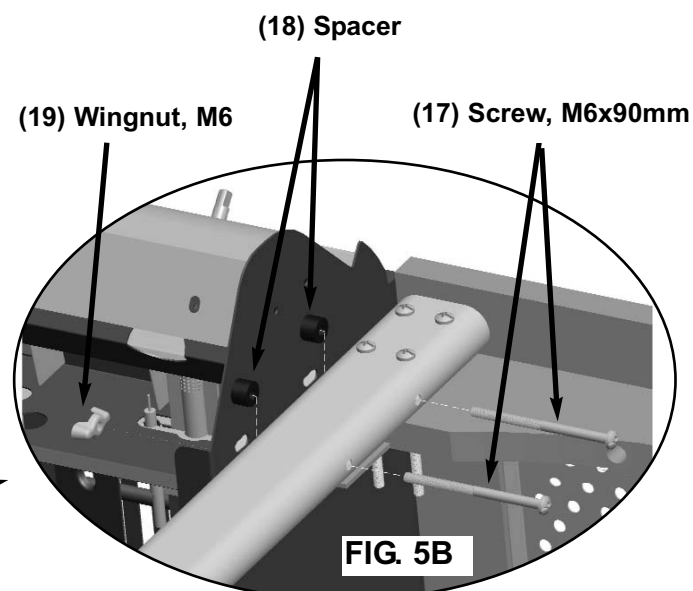

FIG. 5B
- Align slotted holes on sides of Grill Body with holes in edges of legs. (FIG. 5B) Hold spacers between leg and body and insert M6 x 90 bolt through leg, spacer, and slotted hole in Grill body. Attach M6 Wingnut, but do not tighten. Repeat assembly for three remaining legs.
(15) Grill Body